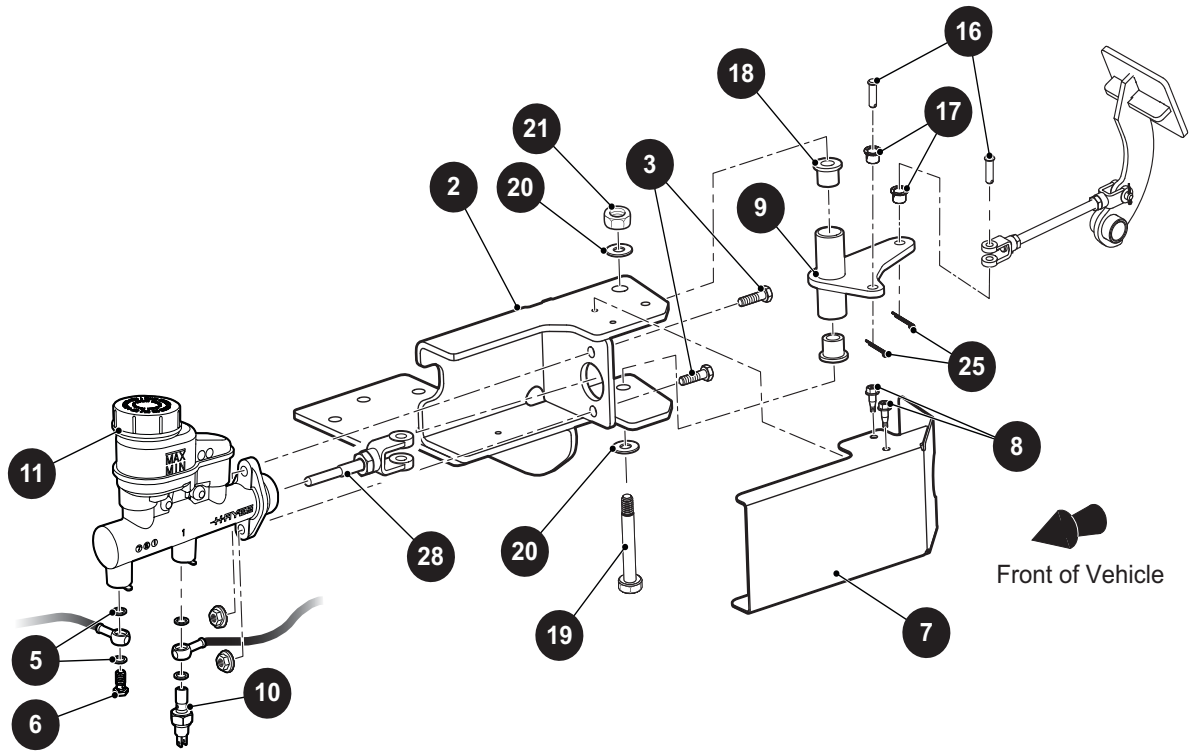

Figure 1 Master Cylinder Replacement
Remove the master cylinder cover (7) after removing the bolt (8) (Figure 1).
Install the new master cylinder (1) using, bolt (3) nuts (4) as shown in (Figure 1). Tighten nuts (4) to torque value specified below.